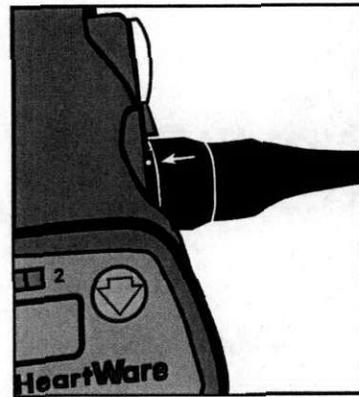

Figure 10: Correct Locking Position: White Arrow Aligned to White Dot
4. Confirm that the power cable is properly locked to the controller (Figure 10) by gently pulling on the cable near the connector.